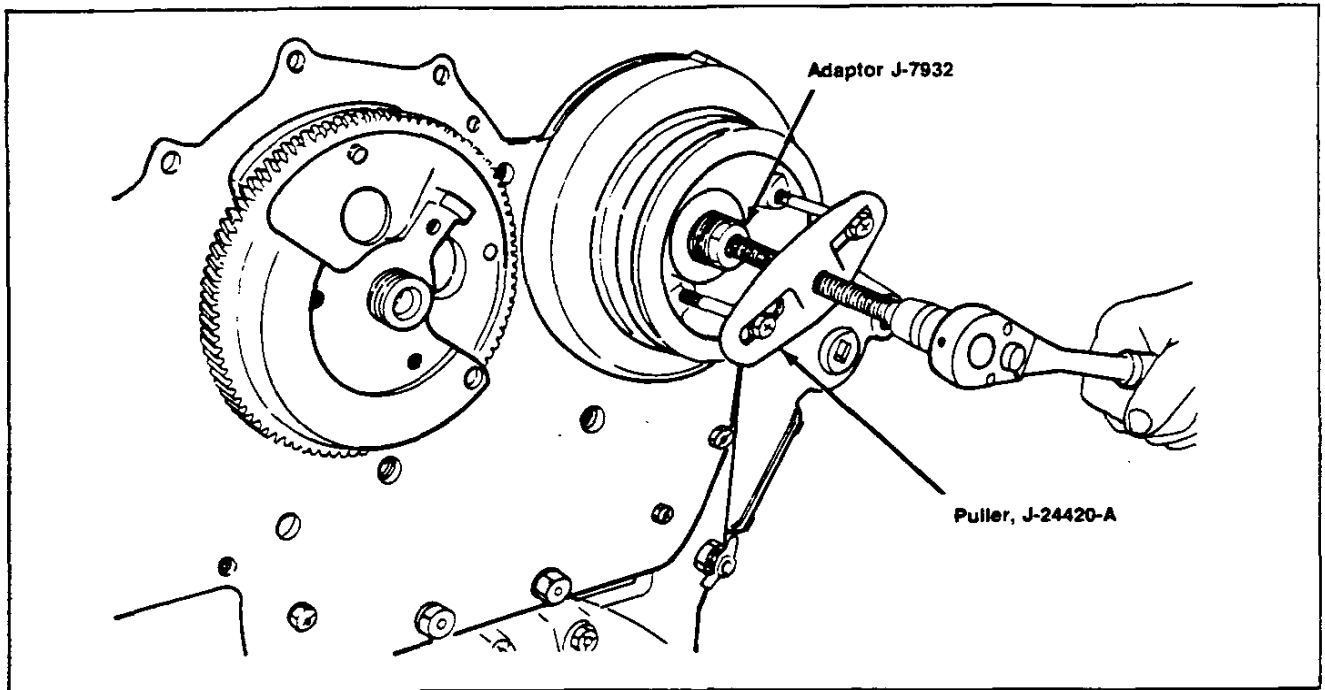

Figure 8
4. Use adaptor J7932 between the end of the camshaft and the puller screw to protect the end of the camshaft (Fig. 8).